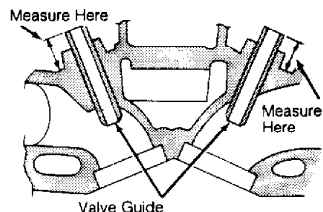

Fig. 16: Measuring Installed Valve Guide Protrusion
3) Guide should protrude from spring side of cylinder head .594-.602" (15.1-15.3 mm) on 300ZX and .520-.528" (13.2-13.4 mm) on Maxima, Pathfinder and Pickup. Measurement is taken from outer valve spring seat surface of cylinder head. See Fig. 16.